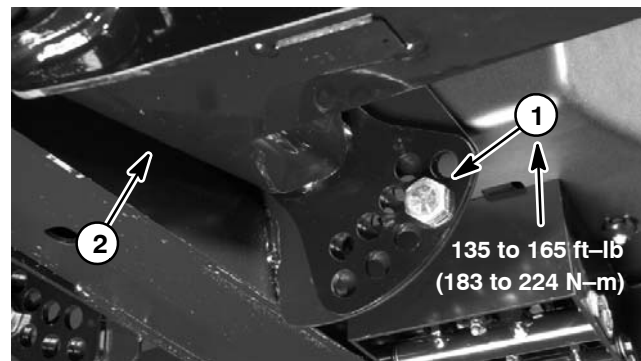

Figure 6
5. Remove ride height adjustment bolt (Fig. 6).